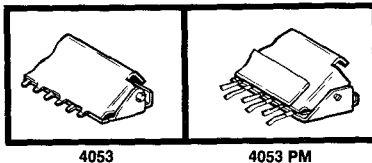

Fig. 5—Difference between 4053 and 4053PM Tools.
- b. The enlarged pins of the tool distinguish the 4053PM Separator Tool from the 4053 Cover Removal Tool. The 4053PM Separator Tool cannot be used to remove covers or bases. See Figure 5.